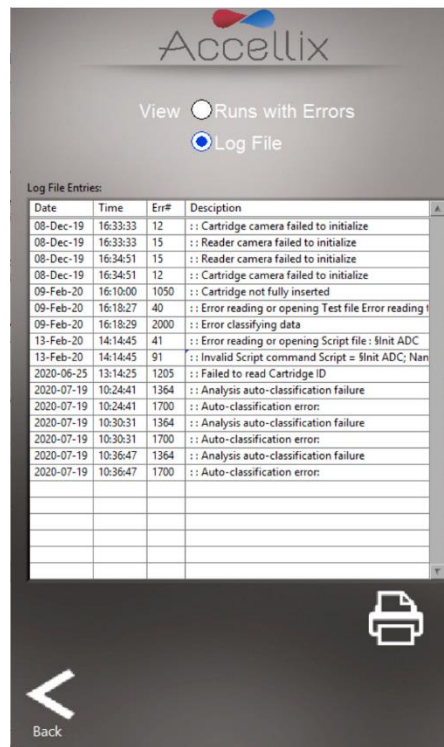

Figure 24: View Log File screen
2. If **View Log File** is selected, the Log File Entries are displayed (Figure 24). Tap the printer icon  to print the log file.